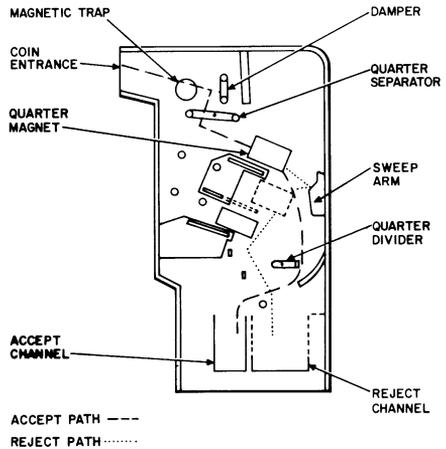

Fig. 4—Quarter Path in a Typical Coin Chute
**2.05 Quarter Operation—Valid Coin Accepted (Fig. 4).**
- (1) Quarter is deposited in coin entrance and passes magnetic trap.
- (2) Quarter continues and is checked for size and weight as the quarter separator rotates.
- (3) Quarter is channeled into the quarter magnet area.
- (4) The quarter magnet sets up an eddy current effect which slows its movement down the chute.
- (5) Quarter strikes the right side (as viewed in Fig. 4) of quarter divider and is accepted.
**2.06 Quarter Operation—Coin Rejected (Fig. 4).**